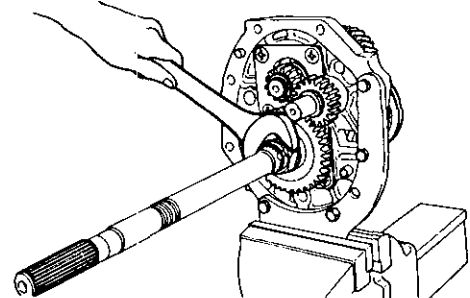

Fig. MT-13 Removing mainshaft nut
5. Release caulking on mainshaft nut and loosen it. See Figure MT-13.